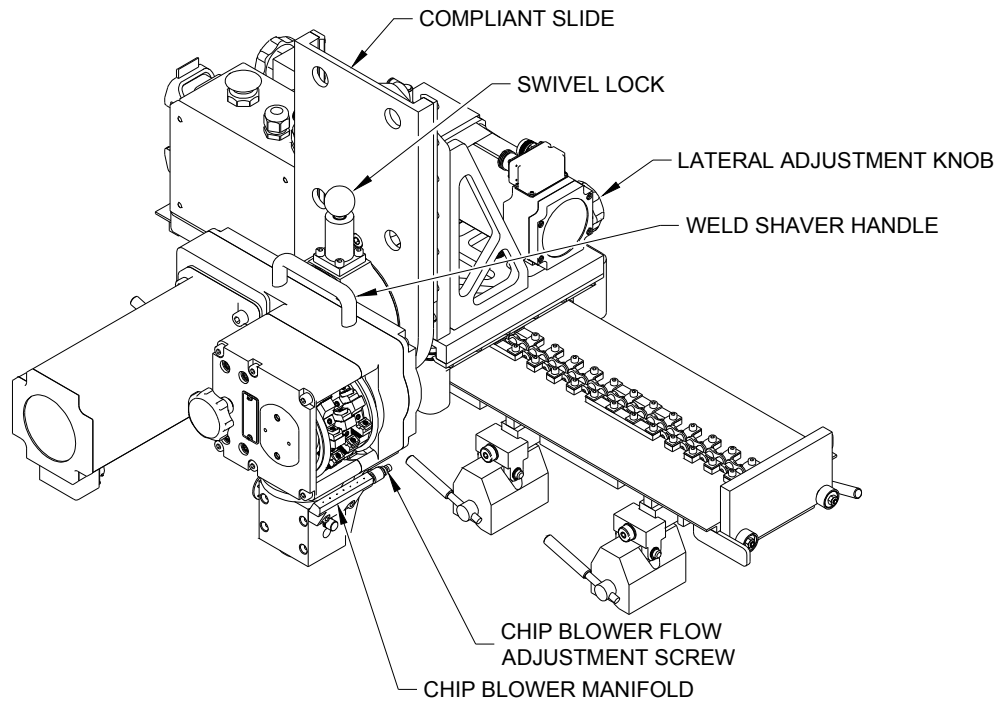

Figure 9: Chip Blower Flow Adjustment and Weld Shaver Lateral Adjustment
A Chip Blower Manifold uses jets of compressed air to keep the area in front of the Weld Shaver free of weld shaving chips. Weld shaving chips under the Guide Wheels will cause an uneven faced profile on the finished weld seam and must not be allowed. The amount of air flow is controllable via the Chip Blower Flow Adjustment Screw (shown in Figure 9). To adjust the amount of air flow, follow the steps below.
6. The air flow may now be adjusted by rotating the Chip Blower Flow Adjustment Screw (See Figure 9). The screw incorporates a knurled locknut which is hand tightened, loosen this first. Rotating the screw clockwise decreases the airflow, while rotating it counter-clockwise will increase the air flow. Once the desired air flow is achieved tighten the knurled locknut.
4. The Weld Shaver must be in the Installation position, as shown in Figure 9. Use the Attachment Pin as a guide for the center of the Weld Shaver cutters.